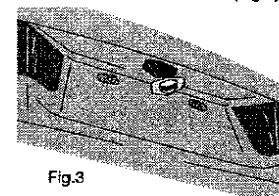
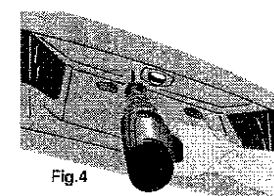

Fig.3
Fig.4
3. The camera's power cable will have to be routed through the vehicle's body to the reverse light circuit. Some vehicle's may have an existing hole available to pass the wire through, you can use an existing opening (Fig.3) like where a license plate light is mounted, or drill a hole close to where the power cable is attached to the camera. (Fig.4)